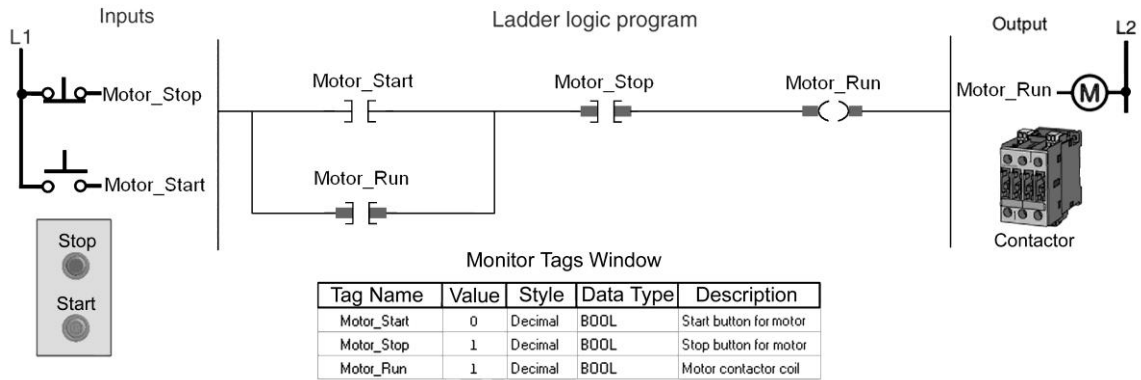

Figure 15-14 Start/stop motor control program for assignment 1.
- 1) The start/stop motor control program of Figure 15-14 is described in the text.